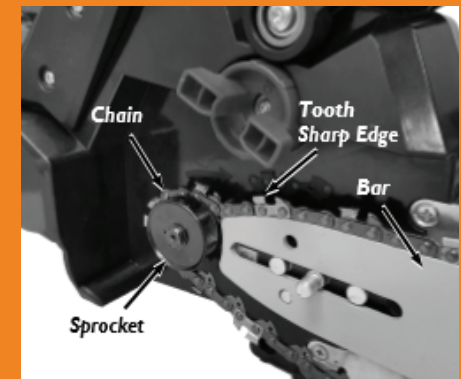

Figure 4
5. Feed the Chain onto the Sprocket and Bar with the sharp Tooth edge (on the top side of the Bar) facing forward (**Figure 4**). Start from the Sprocket and work clockwise feeding the Chain around the Bar.